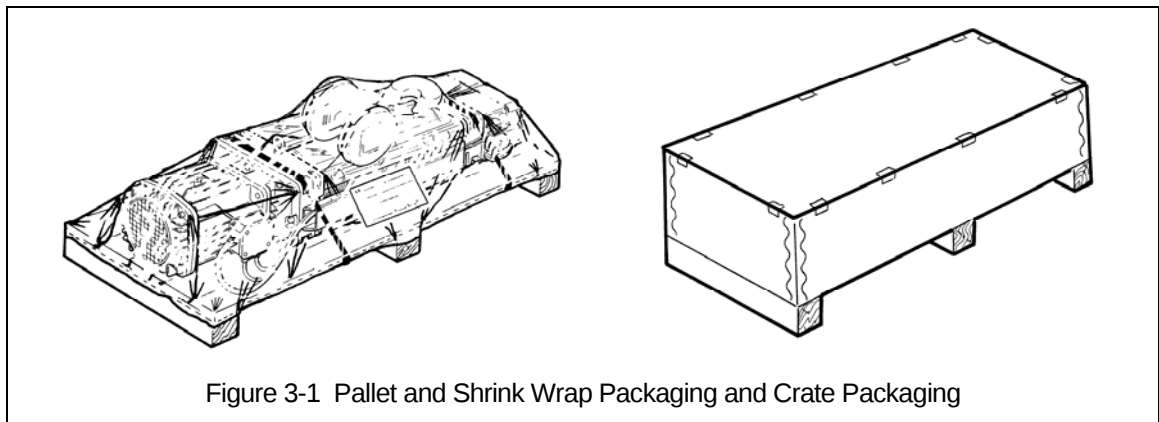

Figure 3-1 Pallet and Shrink Wrap Packaging and Crate Packaging
- 3.1.2 The RH is generally delivered pre-assembled and shrink-wrapped on a pallet or in a wooden crate (see Figure 3-1). During shipment and storage prior to installation, the trolley hoist should be kept between  $-4^{\circ}$  and  $+140^{\circ}\text{F}$  ( $-20^{\circ}$  and  $+60^{\circ}\text{C}$ ) and the relative humidity must not exceed 80%. The standard packaging is not watertight and rainproof.